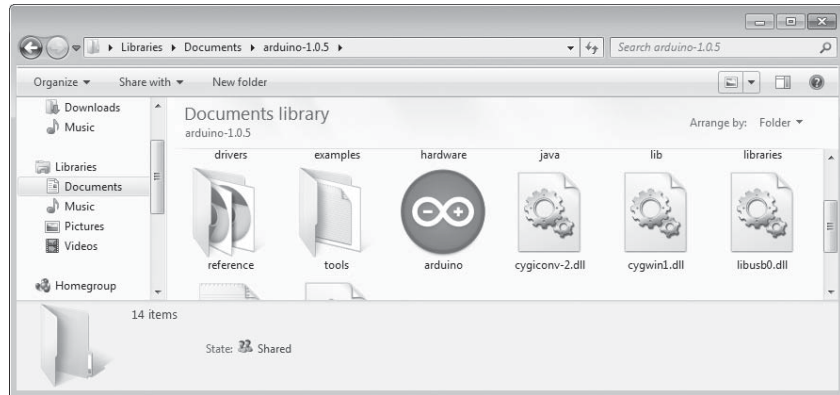

Figure 1-19: Your IDE folder with the Arduino application icon selected
4. Copy the folder named *arduino-1.0.5-windows* (or something similar) to the location where you store your applications. Once the copying is finished, locate the folder and open it to reveal the Arduino application icon, as shown in Figure 1-19. You may wish to copy the icon and place a shortcut on the desktop for easier access in the future.